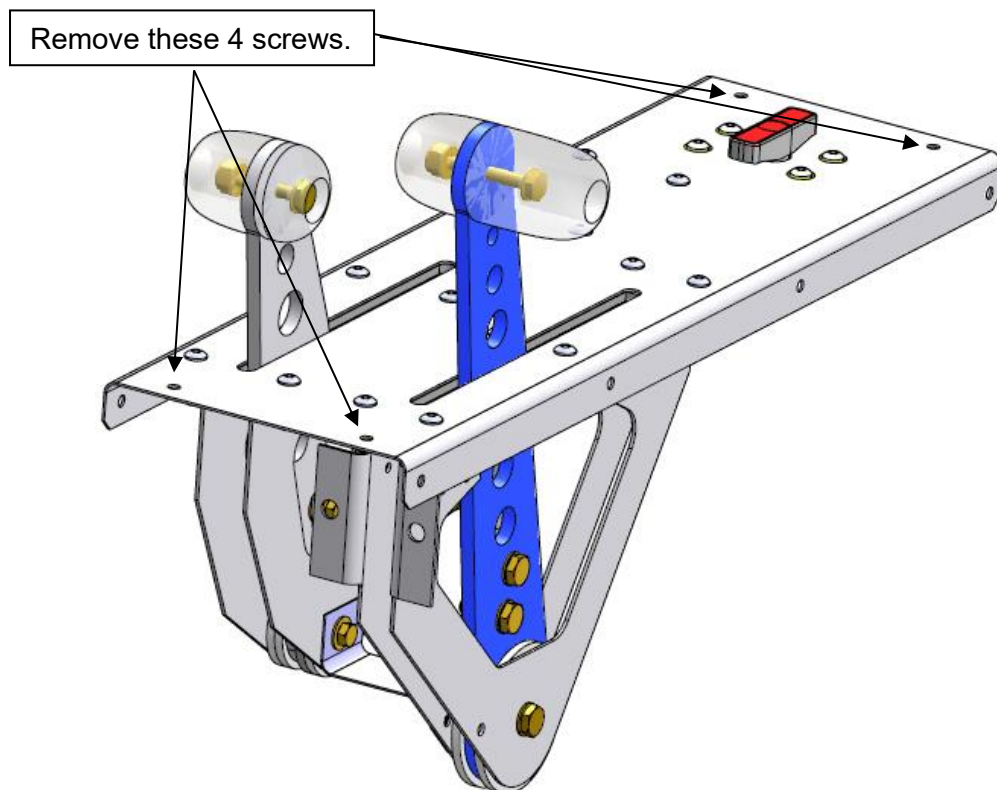

Figure 3
Step 3: Once the side inspection panel has been removed, remove the 4 screws that hold the throttle quadrant in place, refer to Figure 3. This is to allow the throttle quadrant to be lifted and tilted for better access to the components beneath. Be careful not to pull the brake line off when you lift the throttle quadrant. The brake line should be long enough to remain attached during the entire replacement process.